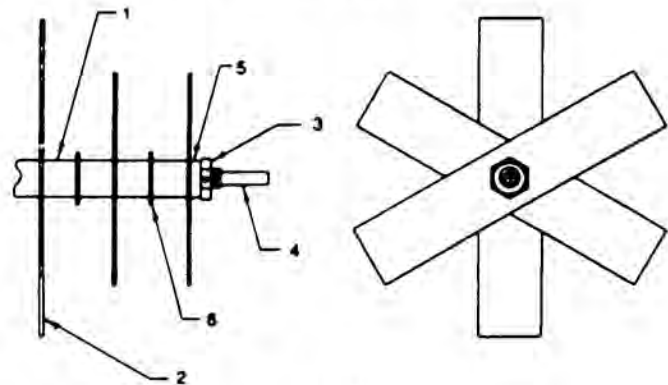

Fig. 2
■ To set slicer shaft to 3" blade spacing, the six spacer washers must be used in place of each blade removed (as shown in Fig. 2).